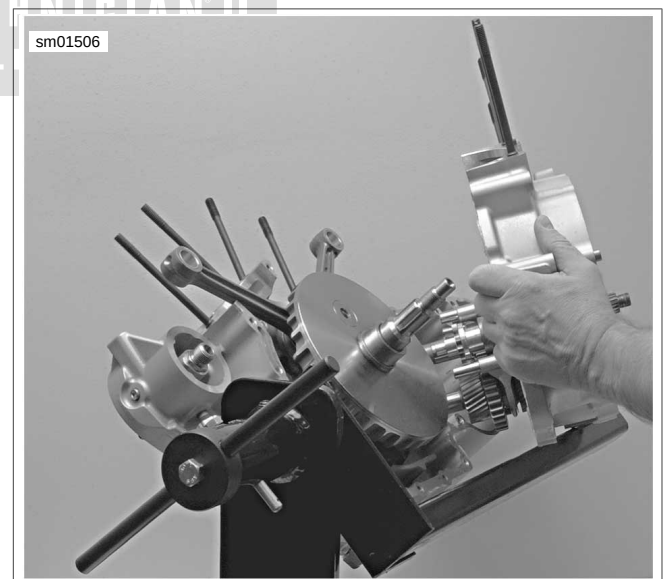

Figure 5-56. Separating Crankcase Halves
14. Tap crankcase gently with rawhide mallet to loosen and separate the halves. See Figure 5-56. Remove left crankcase assembly with transmission.